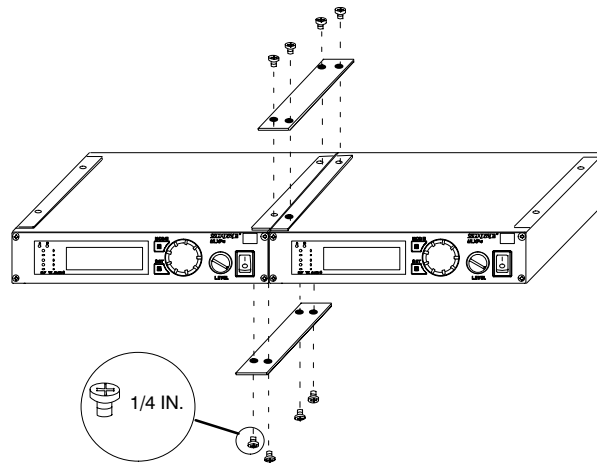

FIGURE 51
4. Position the rack-mount brackets over the holes in the sides of each receiver, as shown in Figure 51.